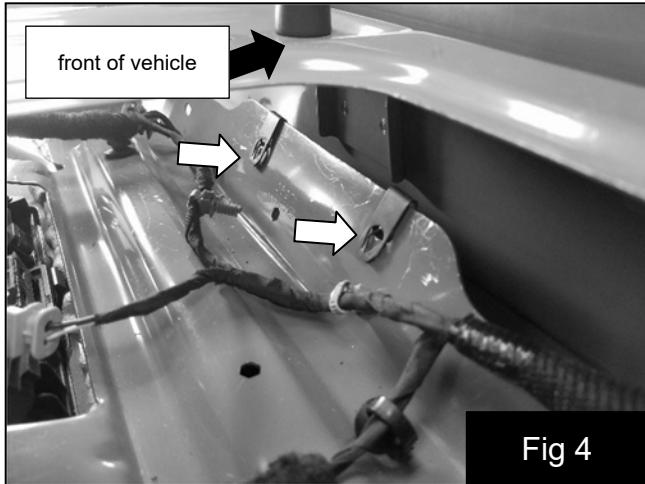

Fig 4
6. Install the supplied threaded clips. Fig 4